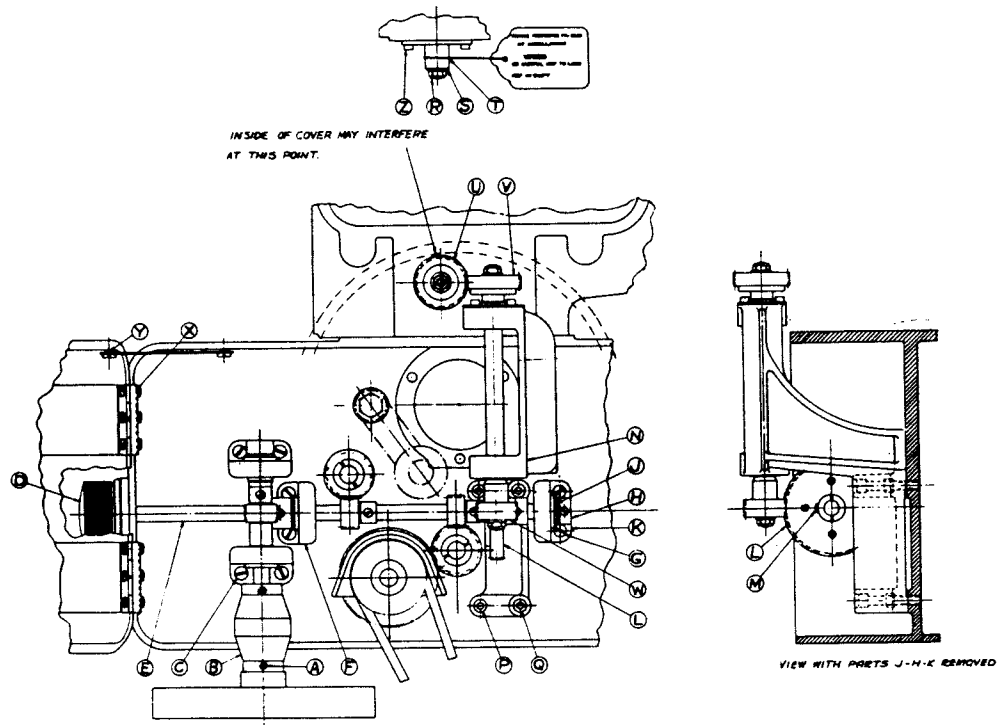

FIGURE 1-8
9) Connect drive shaft (P) to shaft (M) and tighten set screws securely.
e. Century R2 and R6 and Westrex Master Soundheads (G-2195) (See figure 1-8.)
2) Loosen the motor coupling set screw (A) at the motor end.
3) Remove the four vertical shaft-bearing housing-fastening screws (C) and take out the vertical shaft with its bearings, housings and motor coupling.
4) Remove the knurled knob (D) from the horizontal shaft (E).
5) Remove the four horizontal shaft-bearing housing-fastening screws (G) and take out the horizontal shaft (E) with its bearings, housings, and gears.
6) Remove collar (H), washers (J), and slide bearing and housing (K) from shaft.
7) Replace gear (L) on the horizontal shaft with the G-2192 Drive Gear and fasten with the P-1367 Screw (M).